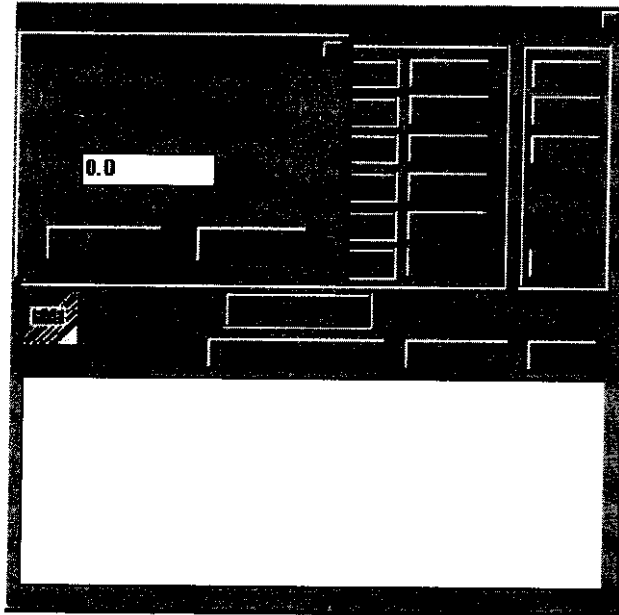

Fig 14 Setting the Rx Line Gain
- Check that the Rx Line Level screen is superimposed (see Fig 14).
- Using the mouse, click in the box showing the current line gain (Fig 14 shows 0.0 dBm). Delete the current value and enter the required value from the PC's keyboard.